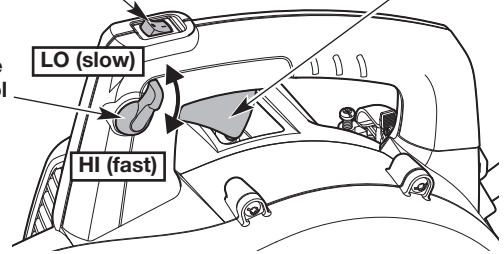

Fig. 3
**NOTE:** There is no need to turn the unit on. The On/Off switch is in the **On (I)** position at all times (Fig. 3).
4. Squeeze and hold the throttle control or move the cruise control to the **HI (fast)** position (Fig. 3).
**NOTE:** Continue to **SQUEEZE and HOLD** the throttle control, or **keep the cruise control in the HI (fast) position, for ALL further steps (Fig. 3).**
2. Press and hold the On/Off switch in the **Off (O)** position until the engine comes to a complete stop (Fig. 3).
- Use the cruise control to make continuous operation easier (Fig. 3).